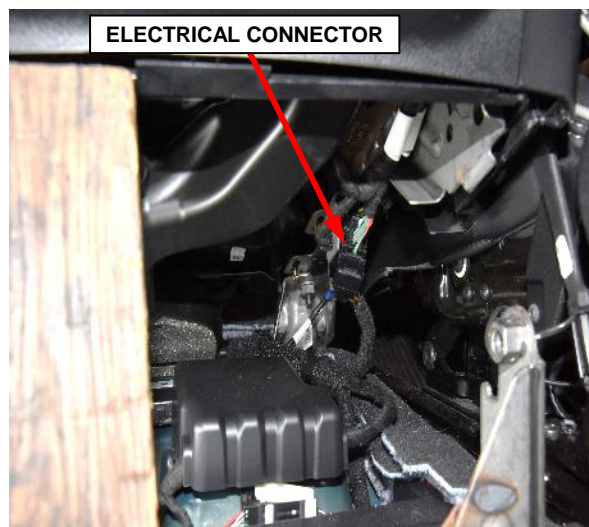

Figure 12 – Electrical Connector
11. Lift and support the center seat at the rear then disconnect the wire harness electrical connector (Figure 12).
22. Lift and support the center seat at the rear and connect the wire harness electrical connector (Figure 12).